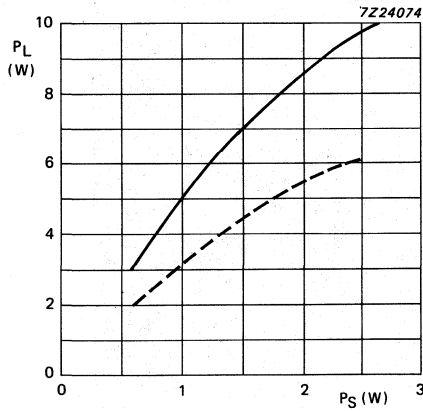

Fig. 6 Load power as a function of source power.
**Conditions for Figs 6 and 7:**
- the device can be applied at a  $P_L$  of max. 1,5 W when it is mounted on a printed wiring board (see Fig. 6) without an external heatsink.
\* Device mounted on a printed wiring board (see Fig. 6).